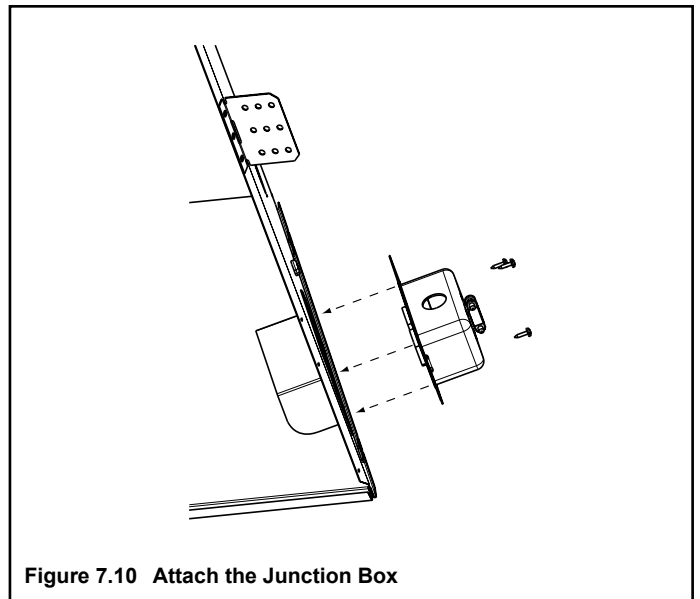

Figure 7.10 Attach the Junction Box
- Attach the junction box bracket to the side of the appliance. See Figure 7.10. Secure with the screws provided in the fastener package.